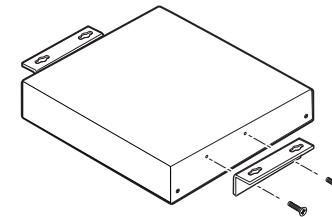

Figure 2-6 — Attaching the under desk brackets
1. Attach the mounting brackets to the interface using four machine screws supplied with the mounting kit (see figure 2-6).